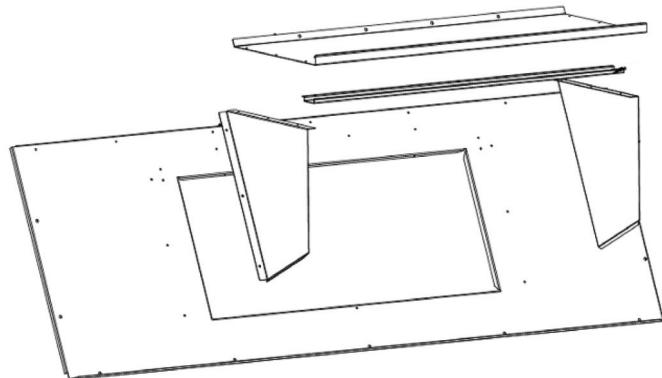

Fig. 19 — Barometric Hood Exploded View
3. Install parts as shown in the following exploded view (Fig. 19) using the seal strip and screws provided in the parts box.